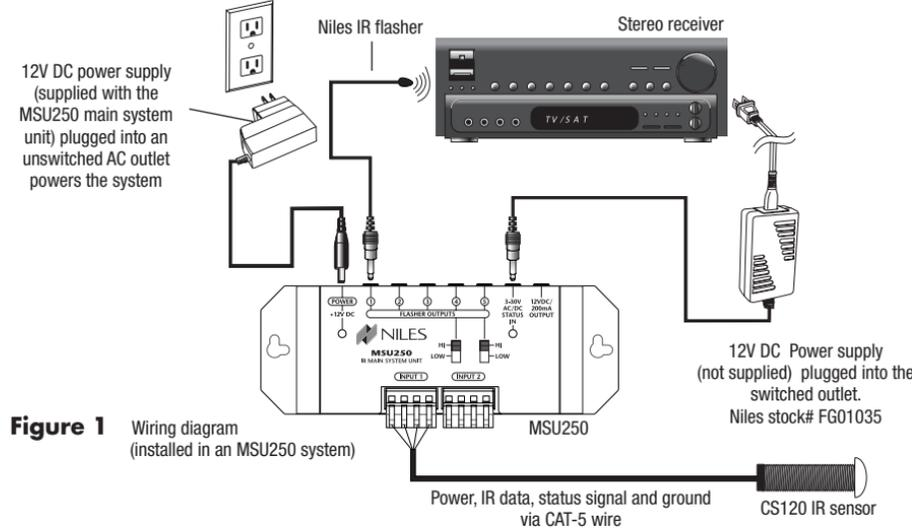

Figure 1
5. *Connect the CS120 cable to the main system unit (Figure 1). Strip 1/4" of insulation from the end of each wire. Tightly twist the end of each wire until there are no frayed ends. Insert each wire into the appropriate hole on the removable connector plug, and snap the locking tab down.*